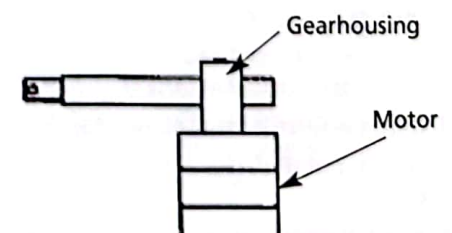

Figure 5 - Incorrect Mount of Actuator
**⚠ WARNING** Never mount actuator in a position that would have motor below the gearhousing as shown in Figure 5.